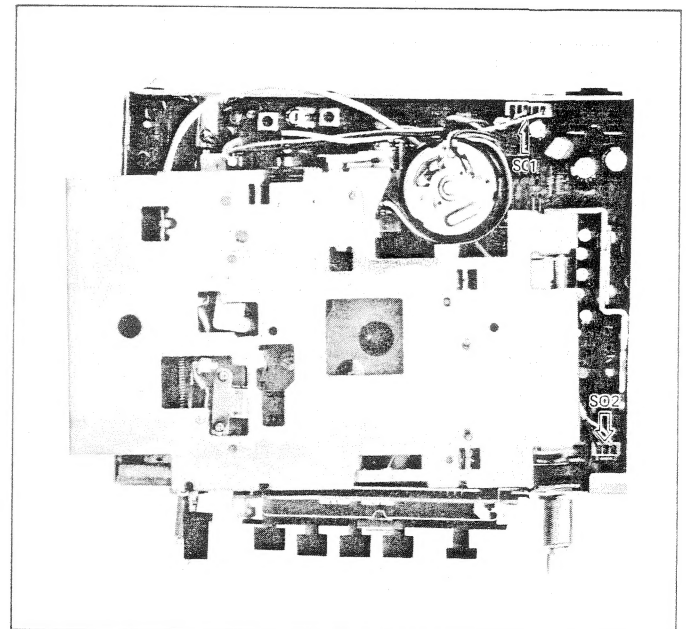

Figure 4-4
4. Pull out the two wiring connecting sockets provided on the printed wiring board. (See Fig. 4-4)